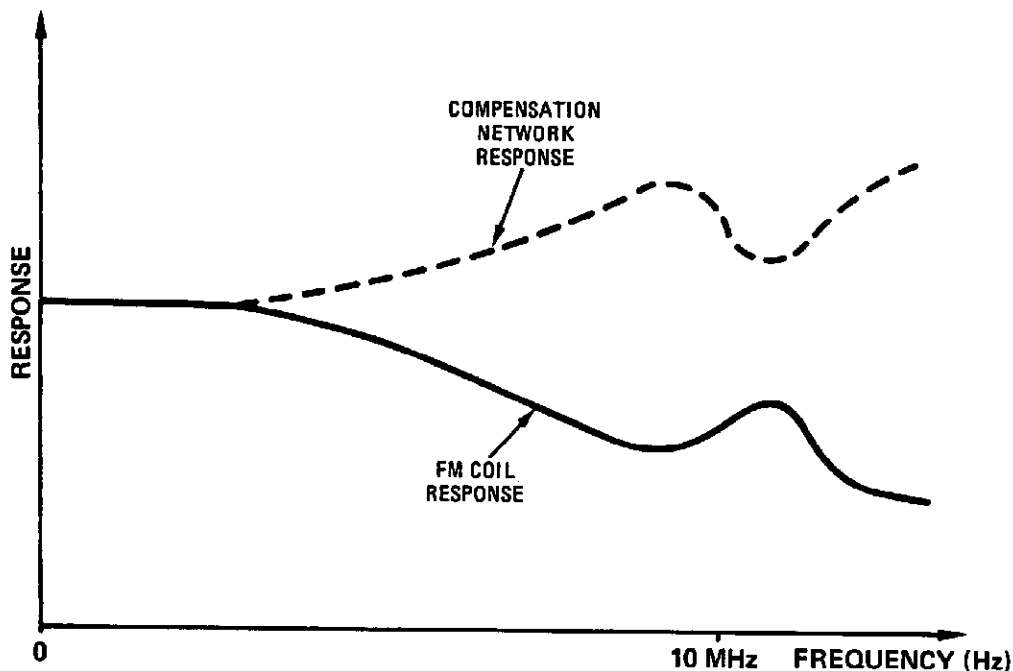

Figure 8-35. Plot of FM Coil Response Versus Modulation Frequency
The output of the filter network is limited to about ± 3 V with a network made up of VR1, VR2, R14, R15, CR3, and CR4. Q5A and Q5B are connected as emitter followers and buffer the output of the filter network to video amplifier U10. Analog switch U11 is always set to switch position zero. Frequency response shaping to compensate for the roll-off versus frequency of the FM coil is produced by the network made up of C11, C12, C14, R21, R22, R23, R75, and L1 connected across pins 9 and 4 of U10. This network is actually in the emitter of the input differential amplifier of U10, producing greater gain with decreasing impedance. Figure 8-35 shows the approximate response versus frequency of the YO FM coil and the compensation network. Adjustments R19 (FM OFFSET), R75 (HI), and C14 (LO) adjust the shape of the compensation network response.